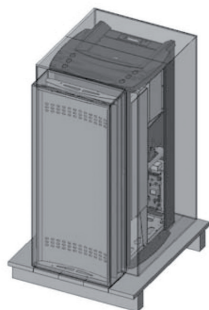

FIGURE 1 - EXAMPLE OF STOVE + STEEL SIDES PACKAGING
- It contains the stove and also the steel sides with the profiles (fig.1)